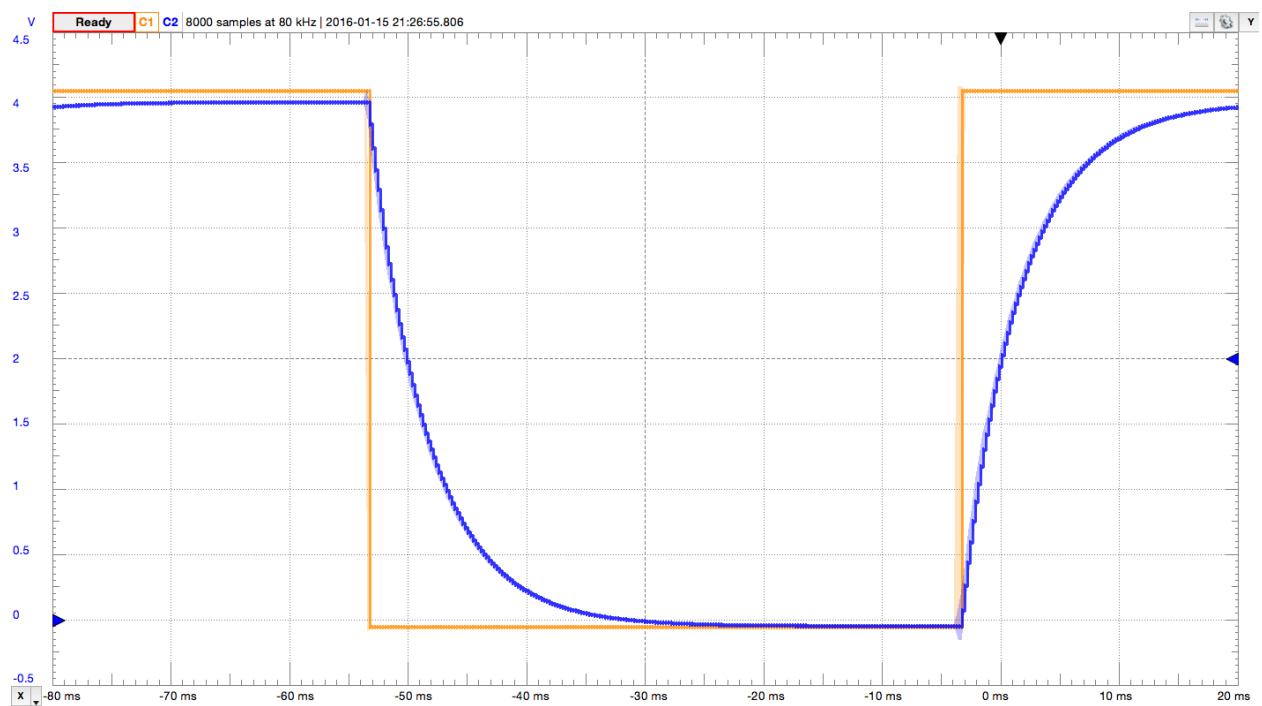

Figure 7: A oscilloscope capture from an RC circuit.
3. In the oscilloscope image in Figure 7, what trigger settings are being used (source, condition, and level)?